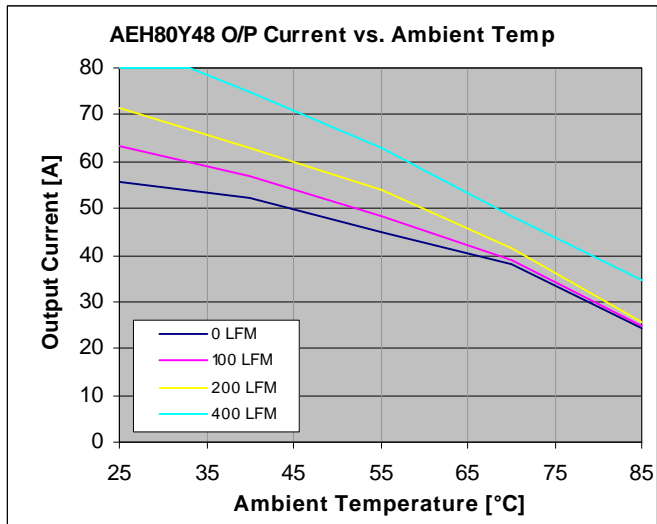

Figure 17. 1.8V Output Derating Curves (100°C Baseplate) at various airflow conditions directed across PIN 4 to 1 with the module mounted vertically.
4. Appropriate Thermal Derating applies. See Figures 17 to 22 for the Thermal Derating Curves